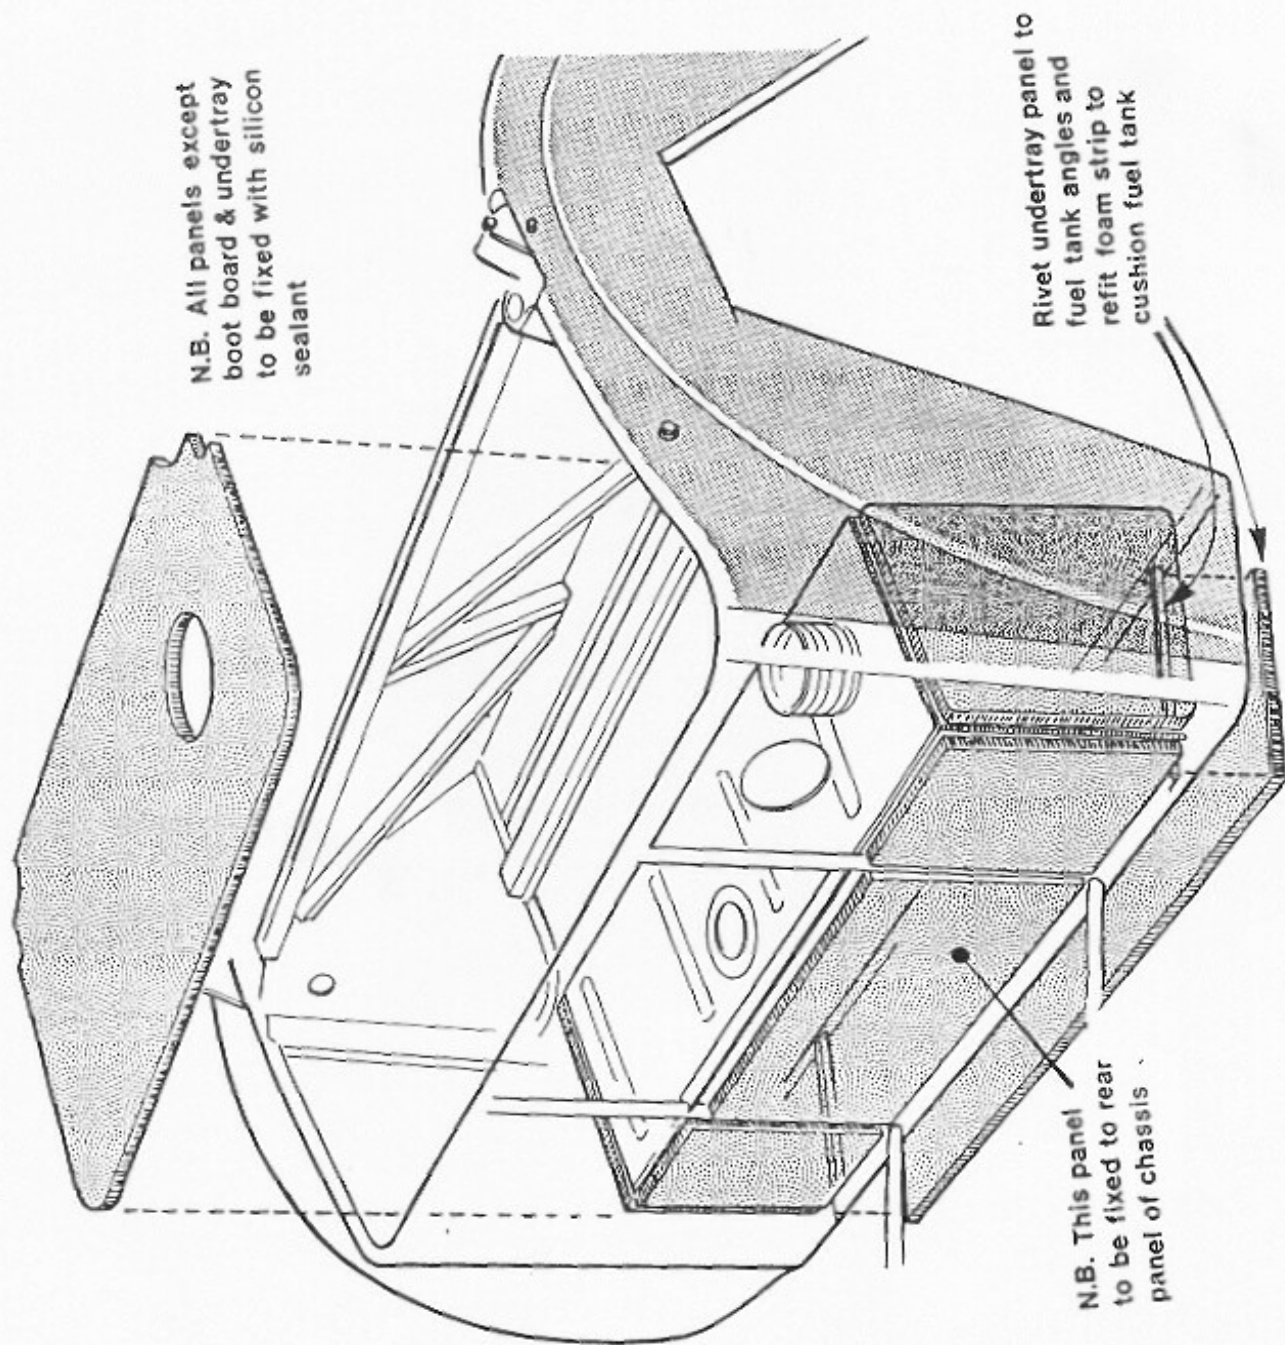

Figure 14.12
12.2 Referring to Fig. 14.12 the first panel to be fitted is the centre rear panel which is secured using a thin smear of silicon sealant to the inside face of the back panel.